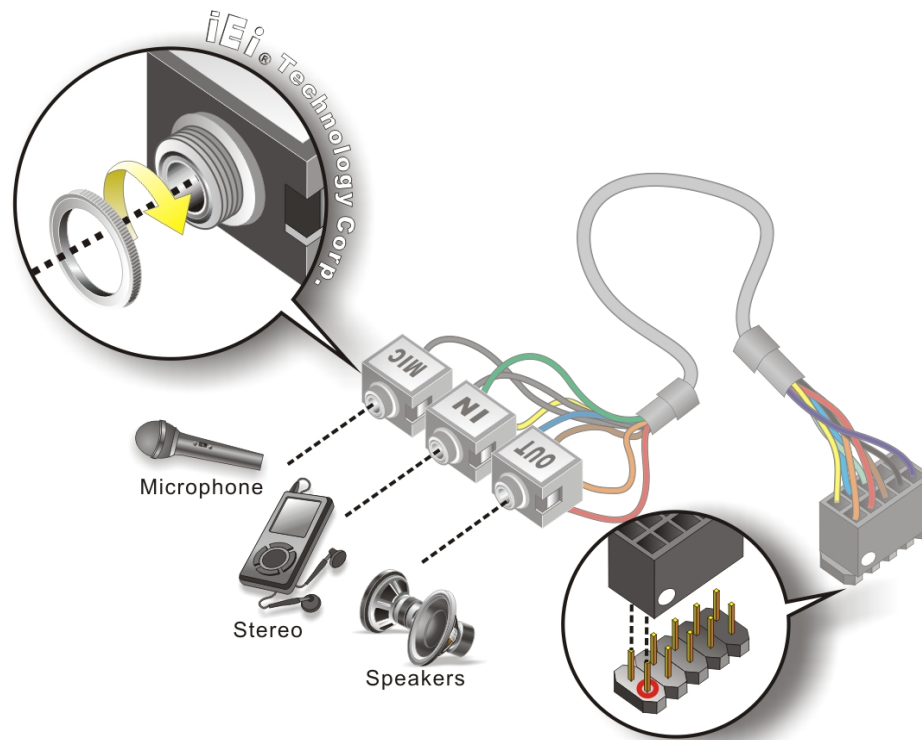

Figure 4-16: Audio Kit Cable Connection
- Step 2:** **Align pin 1.** Align pin 1 on the on-board connector with pin 1 on the audio kit connector. Pin 1 on the audio kit connector is indicated with a white dot. See Figure 4-16.